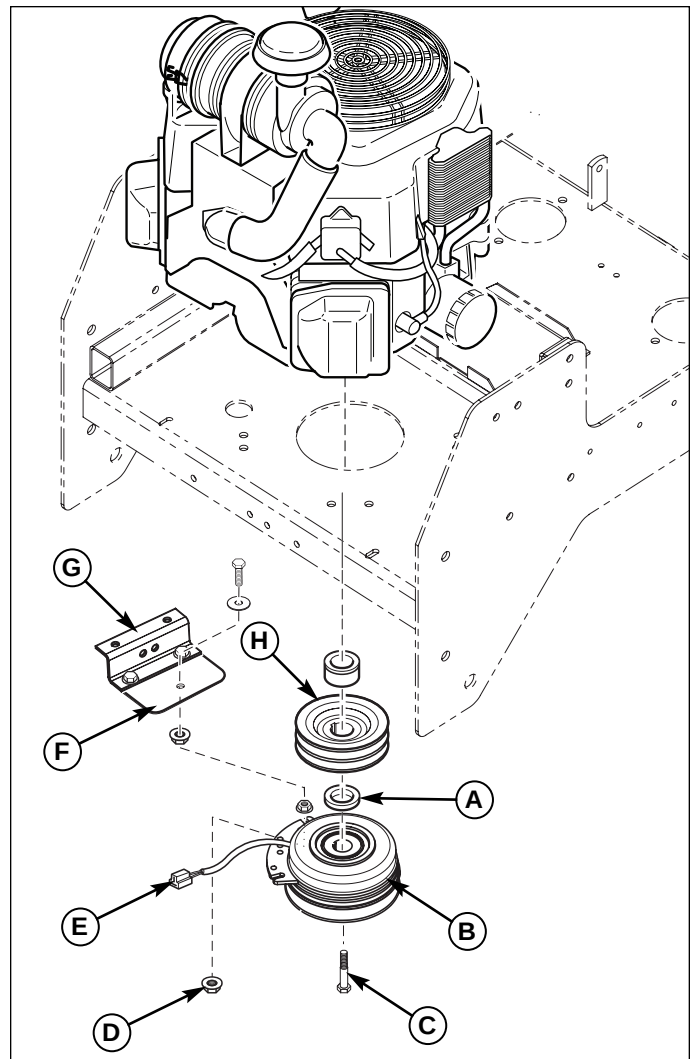

Figure 1. Replacing the Engine Spacer
3. Cut the tie wrap that secures the PTO clutch wires (E, Figure 1) to the PTO clutch anchor bracket (G). Disconnect the PTO clutch wires from the main wire harness.
4. Remove the 5/16" nylock flange nut (D) that secures the PTO clutch anchor pad (F) to the PTO clutch (B).